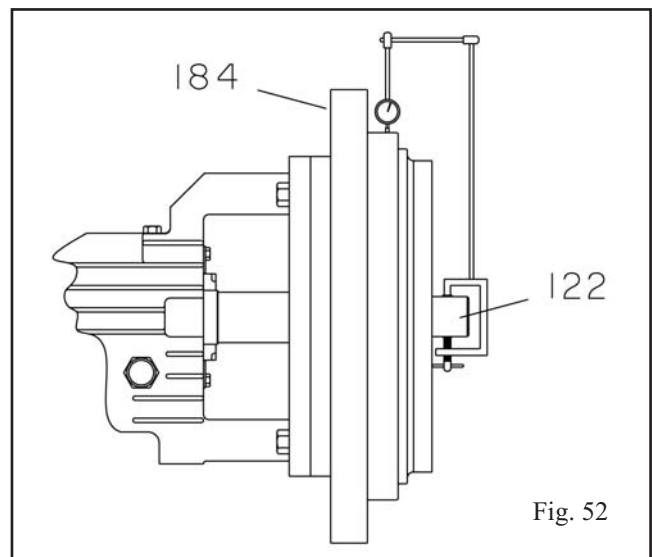

Fig. 52
7. Check seal chamber cover (184) lock runout in the following manner:
- a. Mount dial indicator on shaft (122) as shown in Fig. 52.
- b. Rotate shaft (122) so indicator rides along the seal chamber cover (184) lock for 360 degrees. If total indicator reading is greater than 0.13 mm (.005 in.), determine cause and correct.